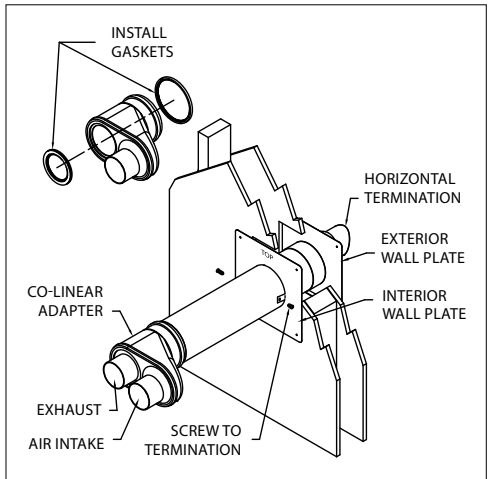

Figure 13
Horizontal Concentric (Fig.13)
8. Install gaskets into Co-Linear Adapter (**Fig.13**)